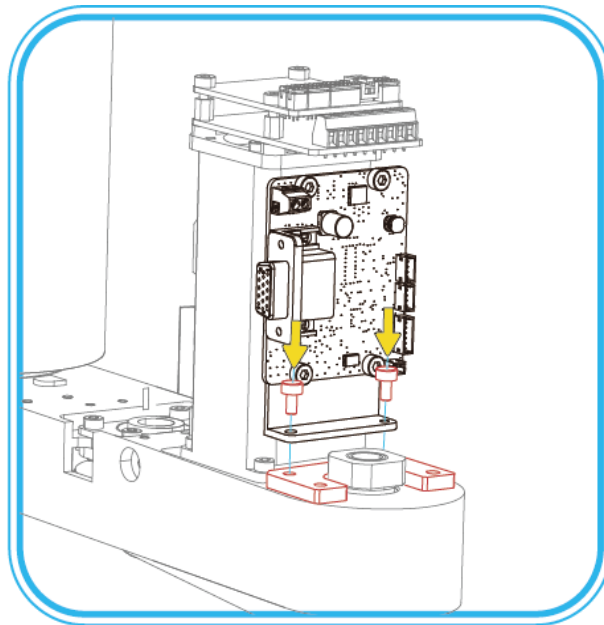

Figure 7.12 Fix the I/O fixing plate and the adapter plate
5. Mount the I/O fixing plate and the adapter plate with two M3*10 hexagon socket head cap screws, as shown in Figure 7.12.